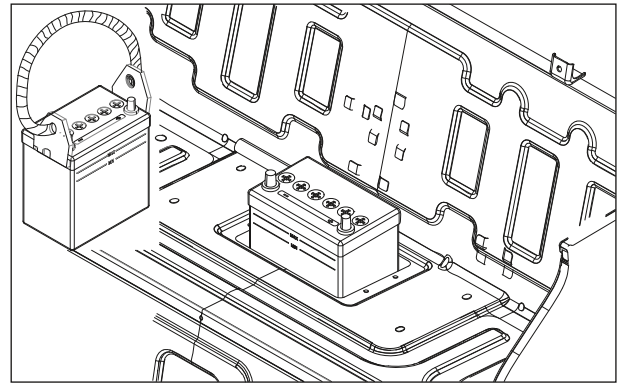

Fig. 2.67
- Using lifting tool battery, lift the battery from its box. (Fig. 2.67)